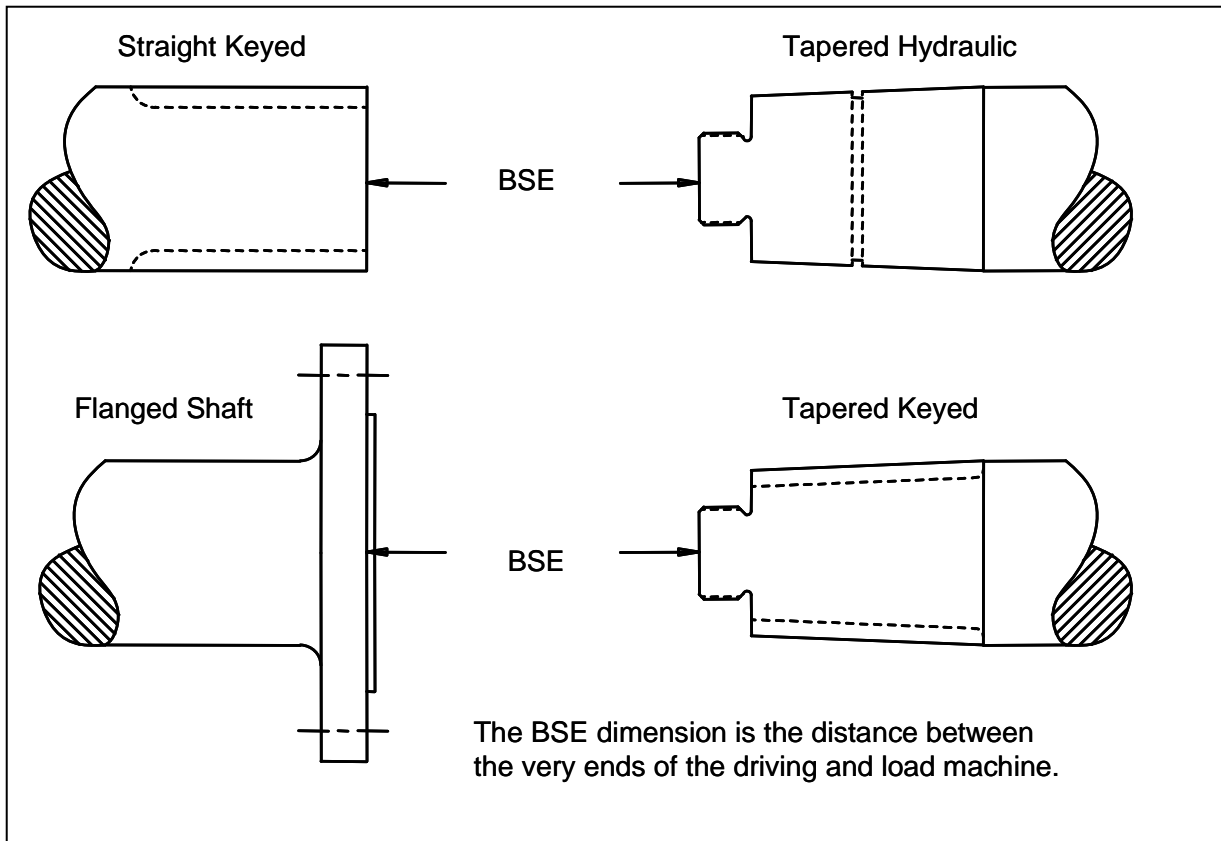

Figure 3-1 Typical Shaft End Combinations
1. Check distance **Between Shaft Ends (BSE)** **See Figure 3-1**
As an initial step in determining the BSE dimension be certain to position the machinery rotors in their running position (**See Figure 3-1**). For example: